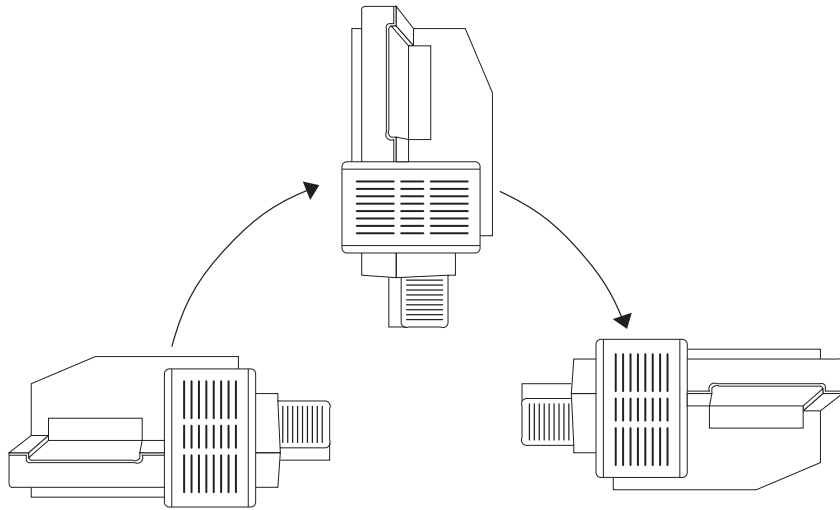

Figure 7: Turning the MAXline Microplate Reader Over (THERMOmax Shown)
- 3) Lay out a soft cloth in the space behind the instrument. Gently lift the instrument upward and turn it over onto the soft cloth so it is lying upside-down on the top casing as shown in Figure 7.